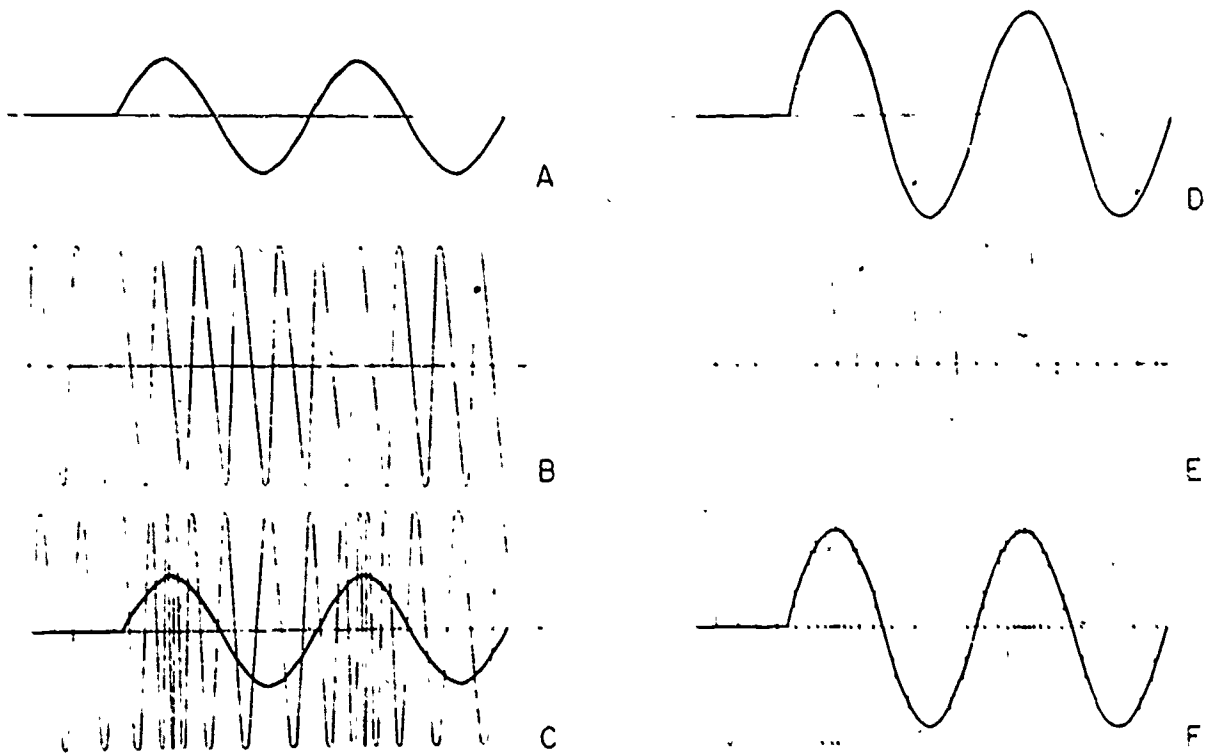

Figure 2-13. Effect of signal amplitude variations on the FM wave.
- (2) The waveforms shown in B and E of figure 2-13 show a stable carrier frequency. Parts A and D show audio signals of the same frequency but different amplitudes, used to modulate the carrier. In C and F you can see the effect of the modulating